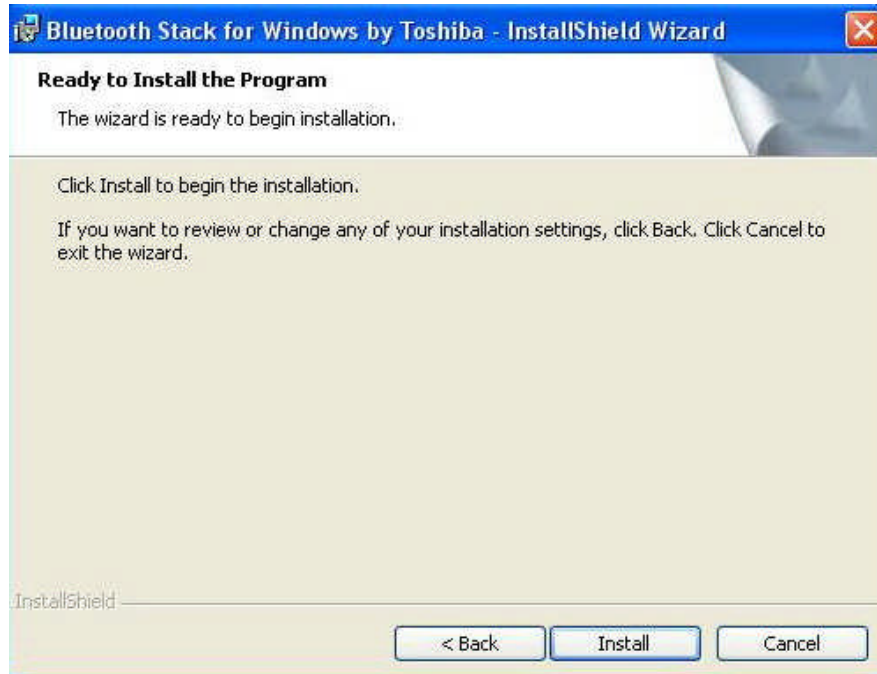

Figure 2.3: Ready to install
- e. Click the Install button to begin the installation. (Figure 2.3)